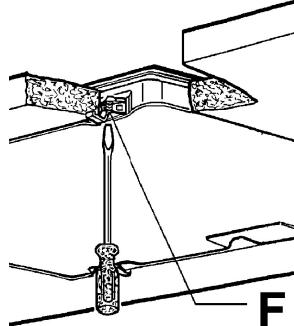

FIG. 7
- secure the appliance by tightening the clamp screws "F" (see fig. 7).